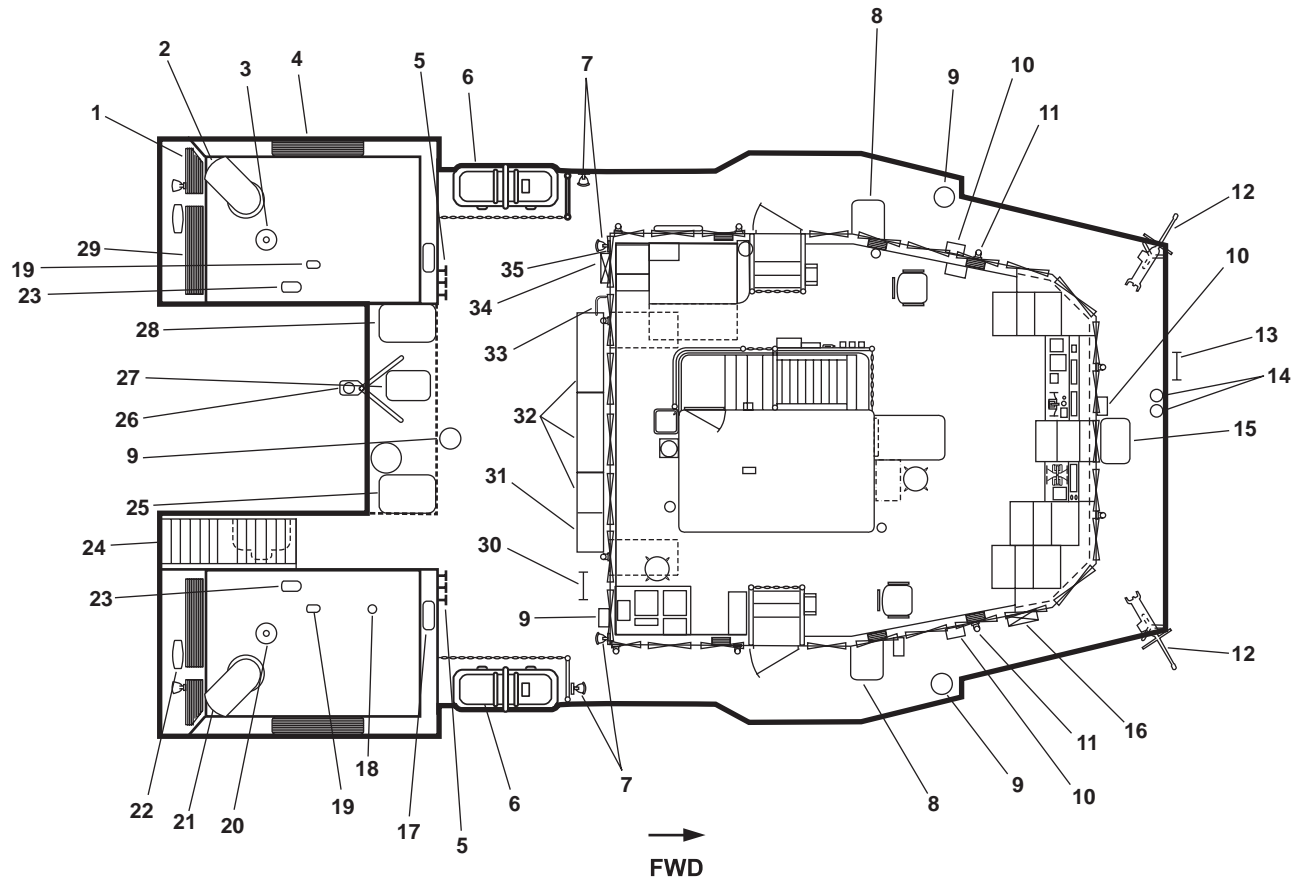

Figure 1. 02 Level Exterior
40. Gasoline can quick jettison rack (figure 1, item 40). The gasoline can quick jettison rack provides storage for three 5-gallon (19 liter) gasoline cans.
41. Ammunition locker (figure 1, item 41). The ammunition locker provides storage for the .50 cal. machine gun ammunition.
42. Aft auxiliary control station (figure 1, item 42). The aft auxiliary control station provides speed and directional control for the main propulsion system and steering control for the rudders.
43. Towing machine control station (figure 1, item 43). The towing machine control station provides controls for the port and starboard towing machine and tow pins.
44. Soft patch (figure 1, item 44). The soft patch is a watertight bolted panel that can be removed to allow large machinery removal.
45. Work boat (figure 1, item 45). The work boat is a seven-person, 13 ft (3.9 m) long, rigid bottom, inflatable boat. The workboat is equipped with a console steering unit and a 40 hp (29.8 kW) outboard motor.
1. Main engine combustion air intake (figure 1, item 1). The main engine combustion air intake provides fresh air to the main engine's combustion system.
2. Port main engine exhaust (figure 1, item 2). This exhaust discharges the port main engine's exhaust to weather.
3. Medium Frequency (MF), High Frequency (HF), Global Maritime Distress Safety System (GMDSS) whip antenna, model, 5300 (figure 1, item 3). This antenna is coupled to the MF/HF transceiver for the GMDSS. Refer to TM 55-5821-311-10 for details.
4. Engine room vent air exhaust (figure 1, item 4). The engine room vent air exhaust provides exhaust for the engine room.
5. Engine room ventilation damper handles (figure 1, item 5). These three ventilation damper handles OPEN and CLOSE the main engine intake, the engine room ventilation intake, and the engine room exhaust vent.
6. Life raft (figure 1, item 6). The inflatable life raft provides holding capacity for 25 crewmembers.
7. Flood light (port and starboard) (figure 1, item 7). The flood light provides illumination for night towing operations.
8. Bridge wing control station (port and starboard) (figure 1, item 8). The bridge wing control station provides auxiliary control of steering, propulsion engines, and the bow thruster engine.
9. Column bearing repeater stand (figure 1, item 9). The bearing repeater stand is a compass repeater for the gyrocompass system.
10. Sound powered telephone (figure 1, item 10). The sound powered telephone provides communication to various areas of the vessel.